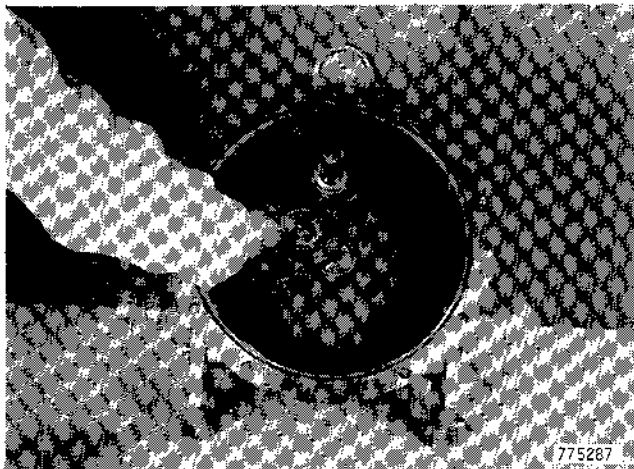

Figure 11
6. Remove shims from idler gear shaft, Figure 11.